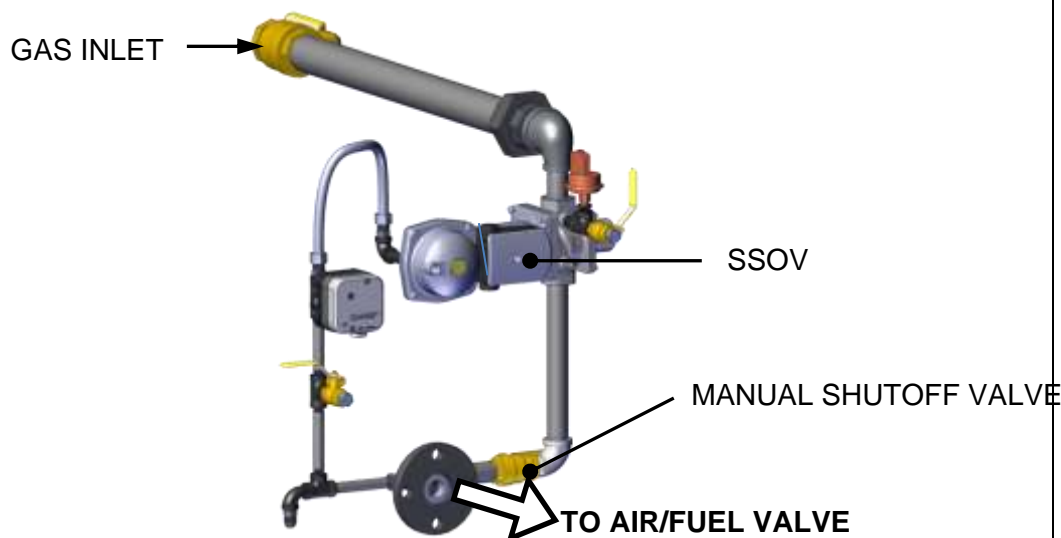

Figure 3.4-1: SSOV Location (INN 600N–INN 1060N Gas Train shown)
2. The unit checks to ensure that the **Proof of Closure** (POC) switch in the downstream Safety Shut-Off Valve (SSOV) is closed. See Figure 3.4-1 for SSOV location.